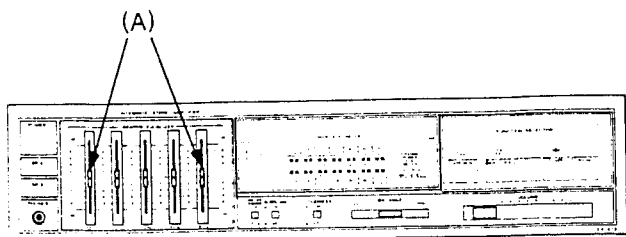

Fig. 1
2. Pull out TONE CONTROL Volume knobs (A). (Fig. 1)